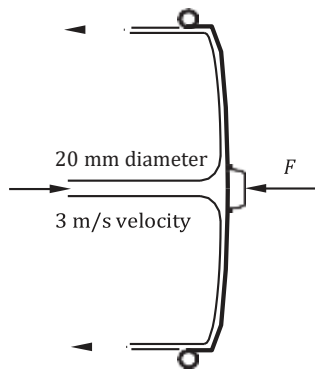

FIGURE P2.34.
34. A garden hose is used to squirt water at someone who is protecting herself with a garbage can lid. Figure P2.34 shows the jet in the vicinity of the lid. Determine the restraining force F for the